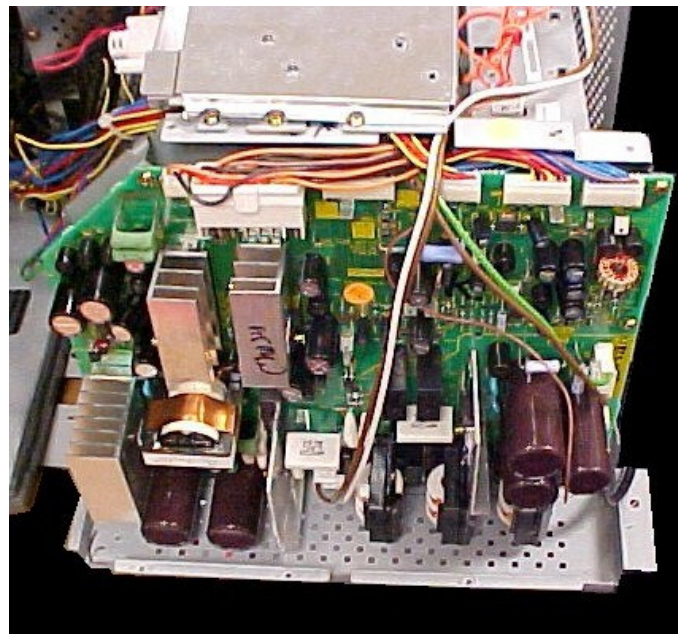

Figure 2-10: PWB-POWER, Shield Removed
- 3) Remove PWB-POWER shield, *Figure 2-10*